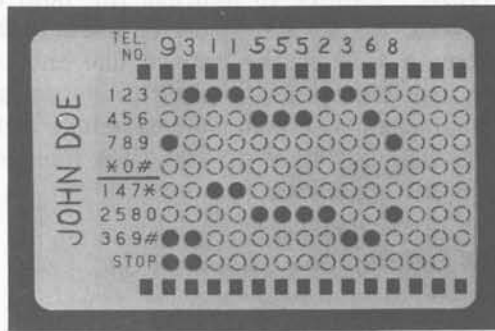

Fig. 7—Card Coded for Access Code (9), STOP, Area Code (311), and 7-Digit Telephone Number
**2.20** On a PBX extension where a code (such as 9) is required to reach a central office line, prepare a card for dialing an access code (Fig. 7) as follows: